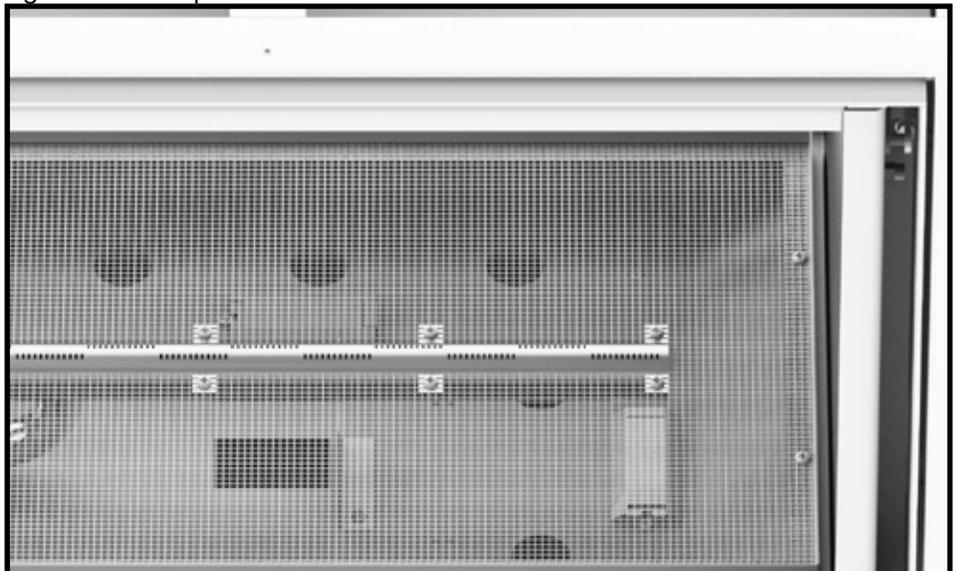

Figure 77: Mesh installation.
9. Place mesh burner tray on top of burners and secure the tray ends to the panels first. Two screws per side. (Figure 77)
10. Secure the mesh to the burners with screws provided by screwing through mesh to each small flange on the burners, 8 per burner (Figure 77)